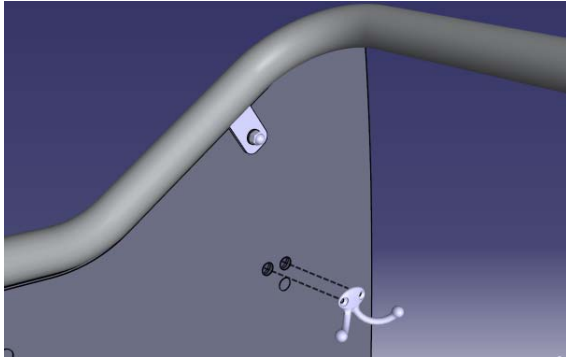

FIGURE 4
- 3) Install new hook using two screws #500371 and the mounting plate #3201128 (figures 4 & 5) on the other side of modesty panel.